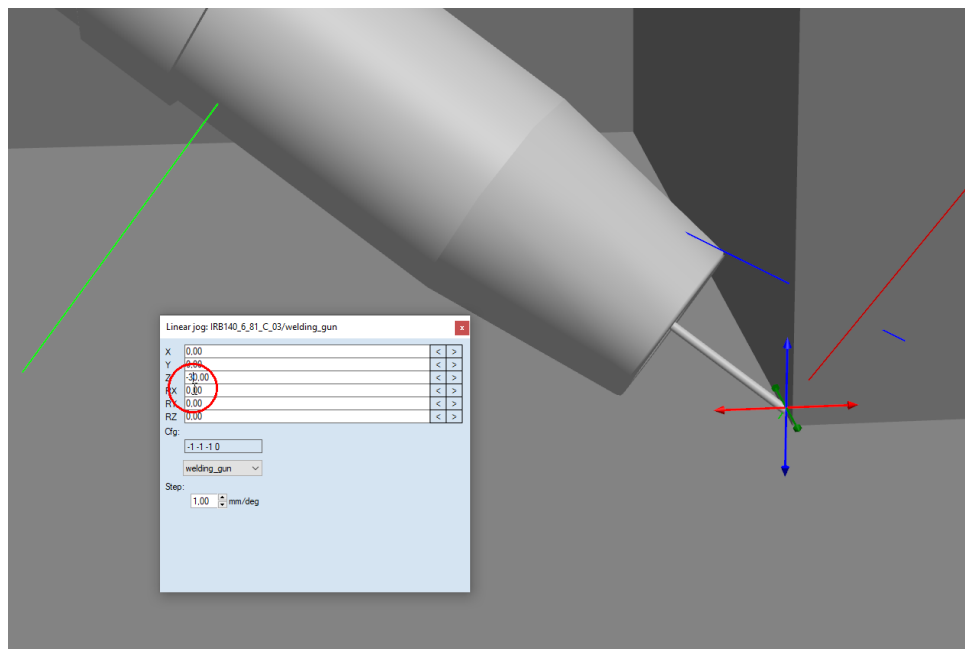

Figure 11: Getting the distances right by going to a clearly visible point and then translating back via linear jogging
- **tip2:** get the point of the welding right to just touch the welding (where the plates meet), and then move it back by 30 mm in the welding gun reference; refer to Figure 11
gun just touch the point, and then translate it back 30 mm in the z coordinate of the welding gun. This is shown in Figure 11.